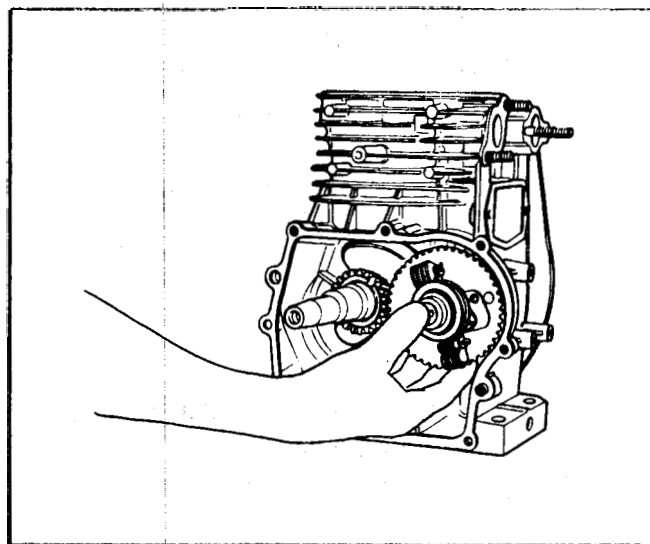

Figure 77
35. The camshaft may now be pulled out of the crankcase. Take note of the location of the timing marks on the crankshaft and camshaft gear prior to disassembly. On reassembly these marks must line up with one another. See Figure 77.